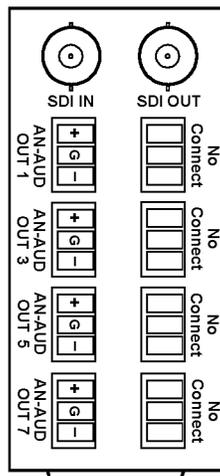

Figure 2.3 Cable Connections for the 9275-4C
- **RM20-9275-4C-B** Rear Module — Each card occupies one slot and provides one SDI input, one SDI output, and four analog outputs. (**Figure 2.3**)